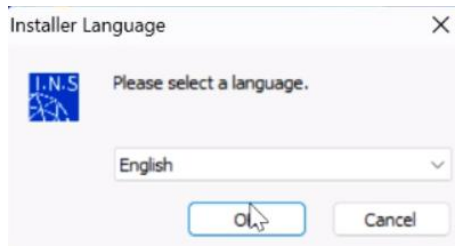

Figure 8
- (2) The software installation interface will pop up. Select the language and click "OK," as shown in Figure 8.